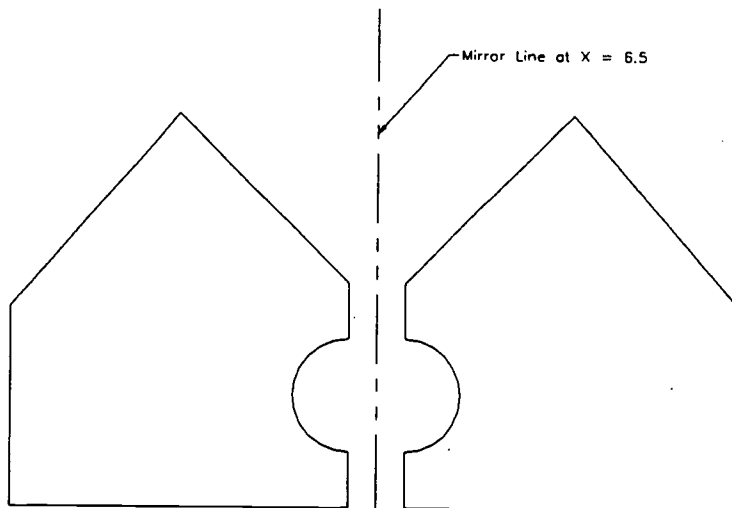

Figure 4
4. Mirror the object about $X = 6.5$ to create figure 4.